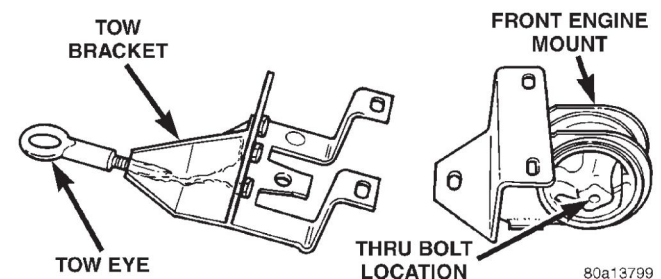

Fig. 15 Front Engine Mount and Tow Bracket
- (1) Disconnect battery.
- (2) Remove lower air dam at front fascia.
- (3) Remove the bolts holding tow bracket and front mount to the lower crossmember.
- (4) Remove thru bolt in engine mount (Fig. 15). Remove mount.
- (5) Reverse removal procedure for installation.
- (6) Torque engine mount thru bolt to 65 N·m (48 ft. lbs.)
- (7) Torque crossmember bolts for tow bracket and engine mount to 54 N·m (40 ft. lbs.)